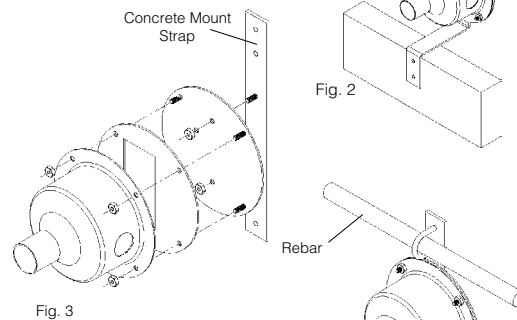

Fig. 3
- Attach the concrete mount strap to the cover plate as shown in Fig.3.